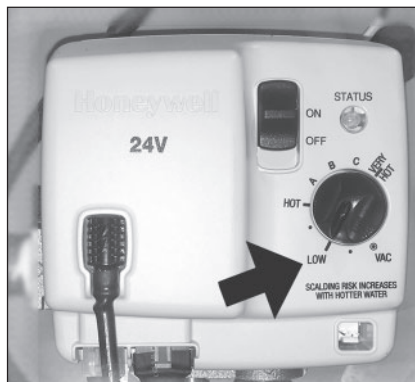

Figure 33 - Set knob to LOW setting.
- 4 Turn the gas control valve to the LOW temperature setting (Figure 33). **The water heater will light automatically. Do not try to light the pilot by hand.**